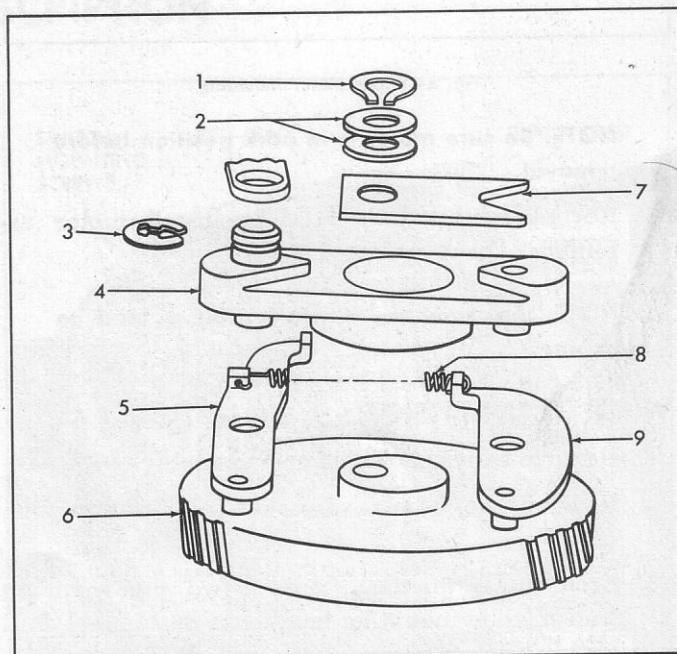

Fig. 11—Drive Gear Assembly Exploded View
6. Disassemble the gear assembly as follows: Refer to Figure 11 for exploded view of drive gear assembly.